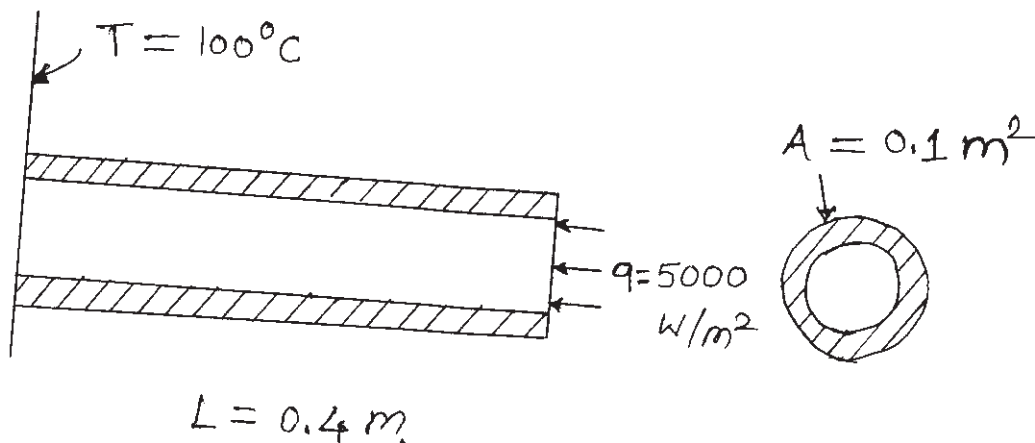

Figure 6.1
- Q6) The fin shown in figure 6.1 is insulated on the perimeter. The left end has a constant temperature of 100°C . A positive heat flux of $q=5000\text{ W/m}^2$. Acts on the right end. Let $K_{xx}=6\text{ W/(m}^\circ\text{C)}$ and cross sectional area $A=0.1\text{ m}^2$. Determine the temperatures at $L/4$, $L/2$, $3L/4$, and L where $L=0.4\text{ m}$. [16]